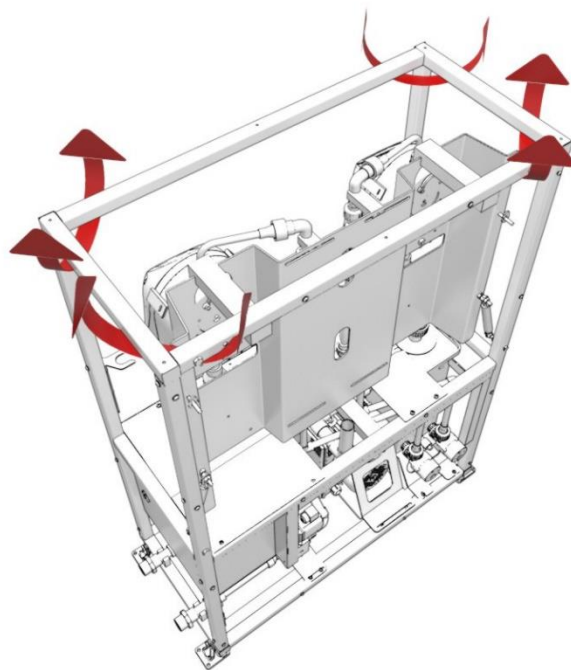

Figure 7: Position of the hoisting belts
- When transporting the system using a crane, the hoisting belts must only be positioned on the corners of the frame (Figure 7).